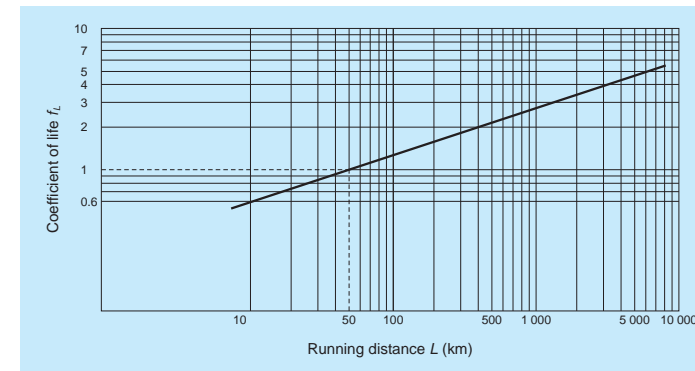
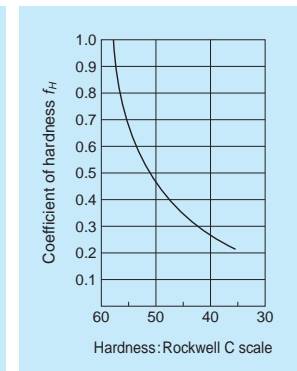

Fig. 5 Relationship between life factor and running distance
Fig. 6 Hardness factor
- P : Radial load (N)
- fL* : Life factor (Refer to Fig. 5)
This formula is used provided that the shaft hardness is HRC58 or higher. Rated life is shorter if the shaft is softer. In this case, find the hardness factor *fH* from Fig. 6, and multiply the value.
From Fig. 5 and Fig. 6,